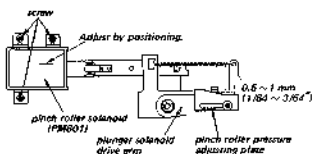

Fig. 3-8. Pinch roller solenoid (PMB01) position adjustment
- Loosen the three solenoid holding screws shown in Fig. 3-8.